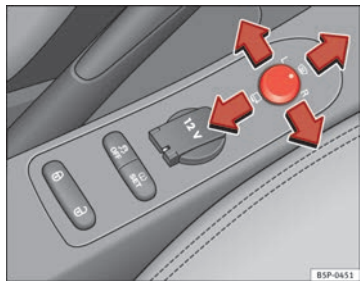

Fig. 88 Controls of exterior mirrors
1. Turn knob ⇒ Fig. 88 to position **L (left exterior mirror)**.
- Turn the control ⇒ Fig. 88 to position to fold in the exterior mirrors. You should always fold in the exterior mirrors if you are driving through an automatic car wash. This will help prevent damage.